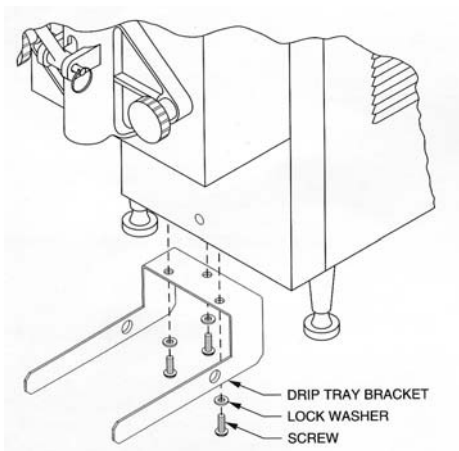

Fig. 2
1. Remove the three (3) **phillips** head screws and three (3) lock washers from the parts packet.
2. Align the drip tray bracket with the three weld nuts on the bottom of the dispense head base (Fig 2).